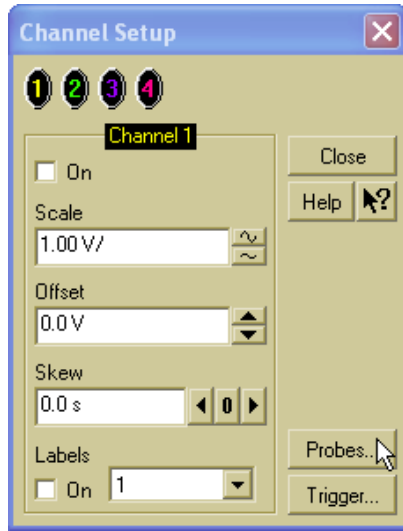

Figure 50 Channel Dialog Box
- 2 In the Channel Setup dialog box, select the Probes... button, as shown in Figure 50.